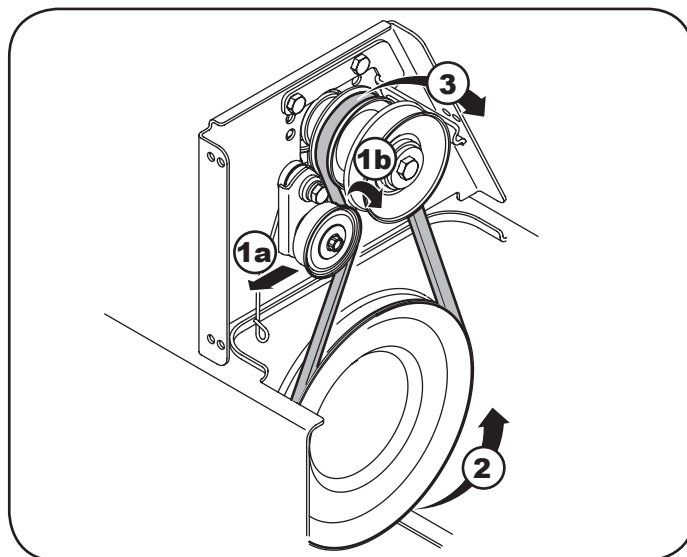

Figure 30
1. Pull the idler pulley away from the backside of the drive belt to relieve the tension and slide the drive belt off the idler pulley. See Figure 30.